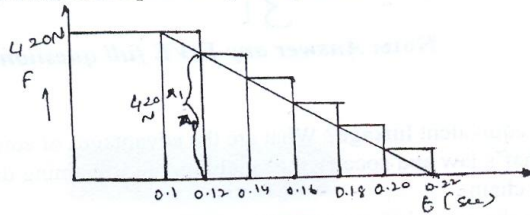

Fig. Q4(b)
- b. A spring mass system initially at rest is subjected to excitation of forcing function as shown in Fig. Q4(b). Find the response in phase plane method. (10 Marks)